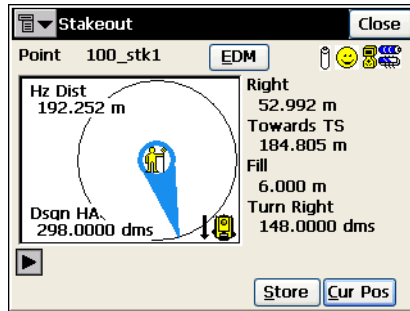

Figure 7-13. Stakeout Point & Direction – Stakeout
- For TS: sight the prism. In the *Stakeout* screen tap the **Cur Pos** button to check the position. Use the **EDM** button to select distance measurement mode: Coarse, Fine or Coarse Tracking. Once the position is close enough to the desired one, tap **Meas** to store it (Figure 7-13).